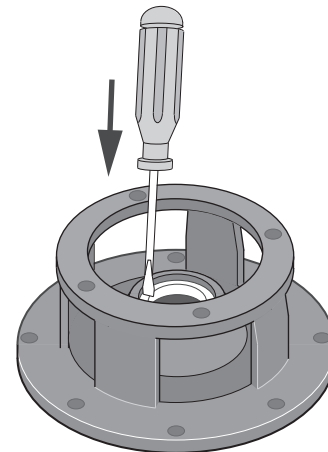

Figure 5
9. Place adapter/seal plate face down on bench and drive old stationary half of seal out of adapter/ seal plate by carefully taping with screwdriver and hammer (Figure 5).